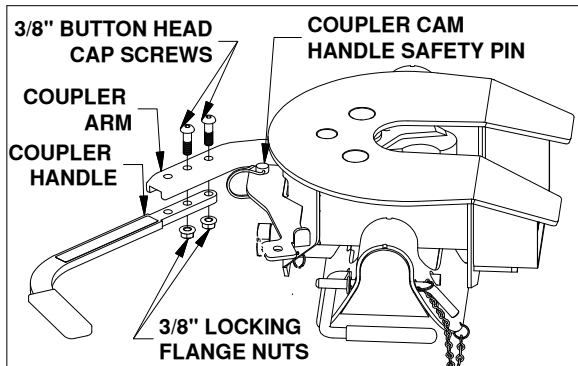

Figure D1: View looking down at side of coupler head.
1. **Open coupler.** Locate the two 3/8" x 1-1/4" button head cap screws and the two 3/8" flanged lock nuts provided in a bolt bag. Pull out the coupler arm and pin it with the safety locking pin near the base of the arm as shown in Figure D1.
2. **Secure handle.** Using the button cap screws and the lock nuts attach the coupler handle to the arm and tighten, see Figure D1. Pull out the coupler cam handle safety pin.